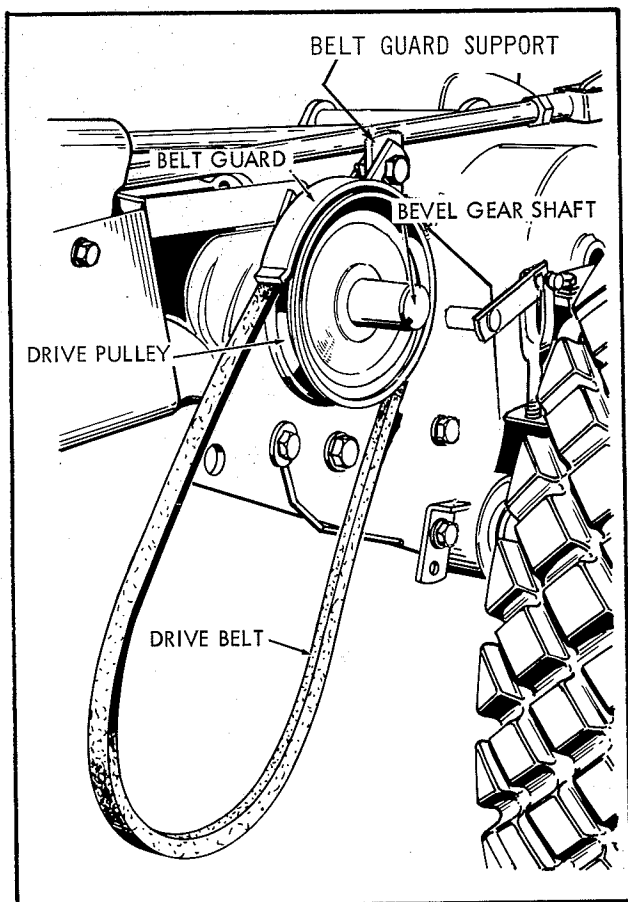
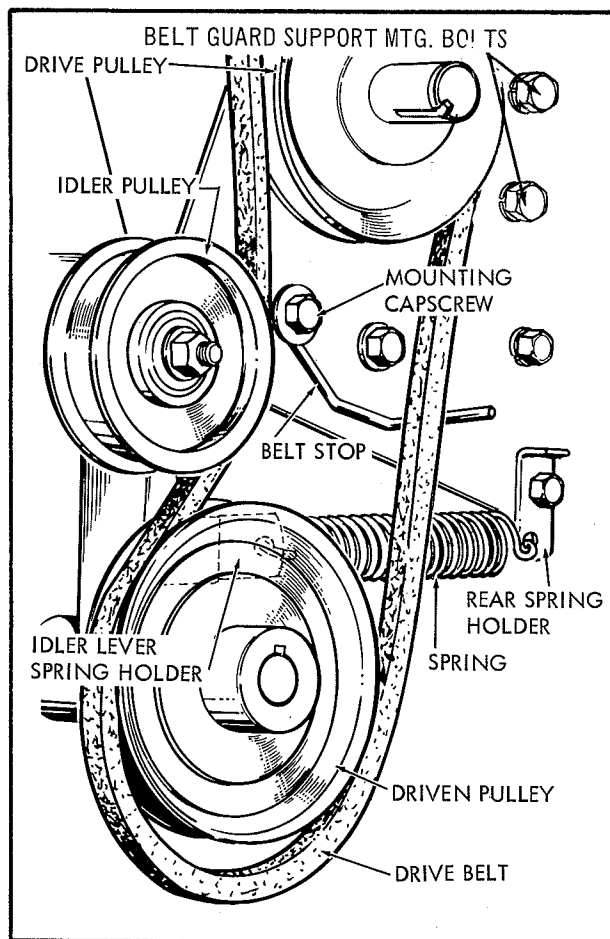

Fig. 1
Fig. 5
1. Mount "V" pulley to shaft of bevel gear assembly (see figure 1) and secure in place with key and set screw. Hub of "V" pulley is to face inward. Place drive belt on "V" pulley and mount belt guard support to inside surface of side plate nearest drive pulley. See figure 5 for mounting bolt location. Attach the belt guard to the guard support as shown in figure 1. Allow approximately 3/16" clearance between belt and guard.
5. Mount "V" belt in place on driven pulley as shown in figure 5 and attach spring to bottom hole in the spring holder and hook other end of the spring to the idler lever spring holder. Mount belt stop as shown with 3/8" bolt, flat washer, lockwasher and hex nut. When idler pulley is engaged, 1/8" clearance between belt stop and back of "V" belt is required. Note: "V" belt runs under idler pulley. See figure 5.